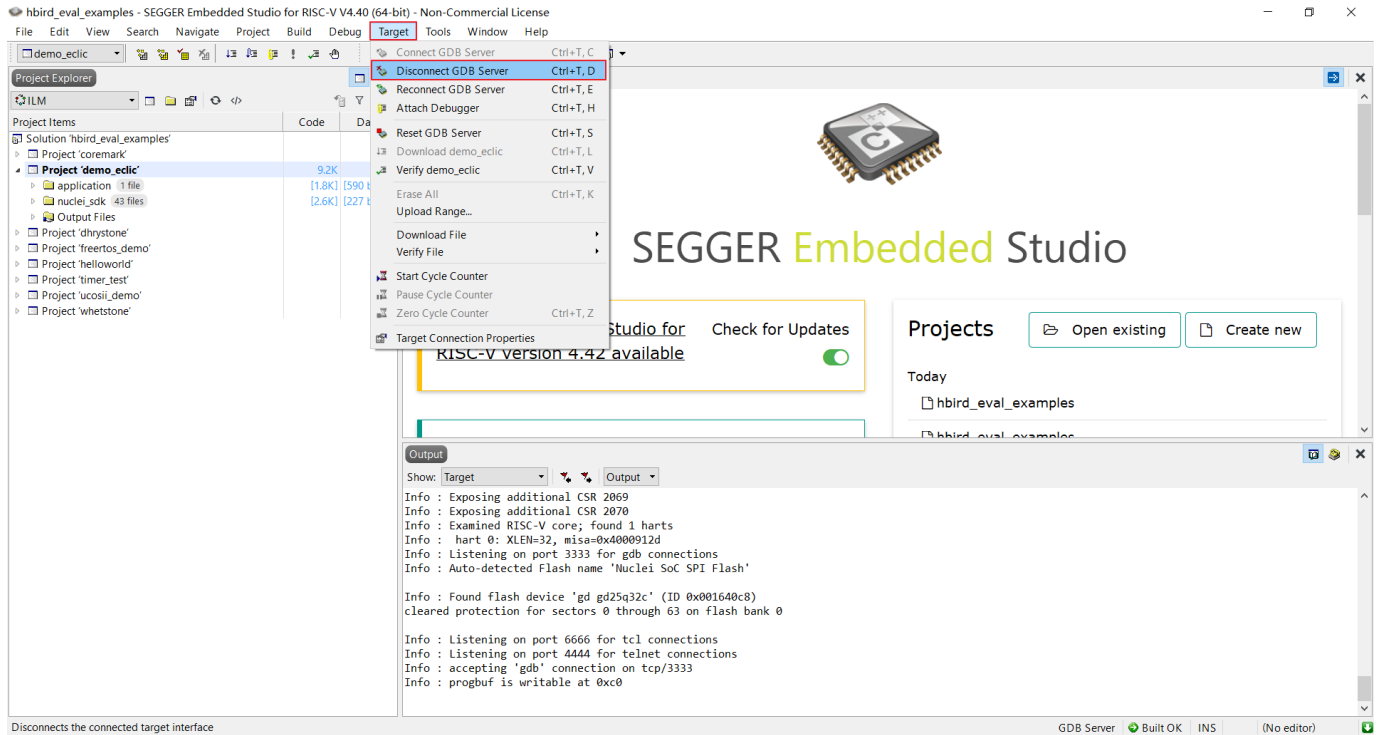

Figure 4-19 Disconnect GDB Server
- If user don't want to debug or re-download it again, then user can just disconnect GDB Server after downloading, select "Target --> Disconnect GDB Server" in the menu bar, as shown in Figure 4-19.